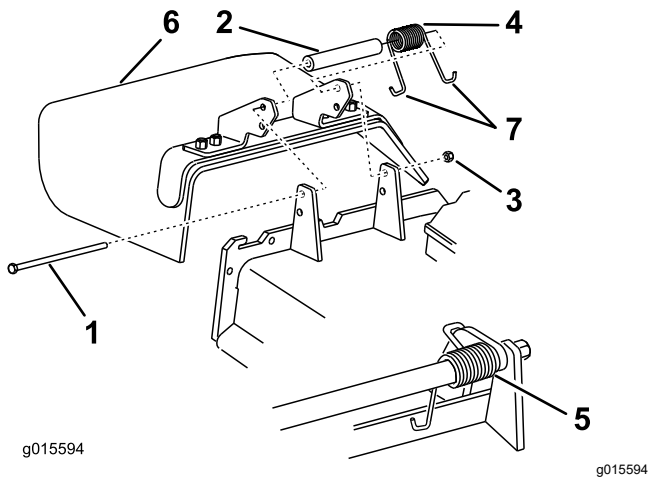

Figure 110
1. Remove the locknut, bolt, spring, and spacer holding the deflector to the pivot brackets (Figure 110).
2. Remove the damaged or worn grass deflector (Figure 110).
Note: Make sure that 1 J-hook end of the spring is installed behind the deck edge before installing the bolt as shown in Figure 110.
6. Place 1 J-hook end of the spring around the grass deflector (Figure 110).